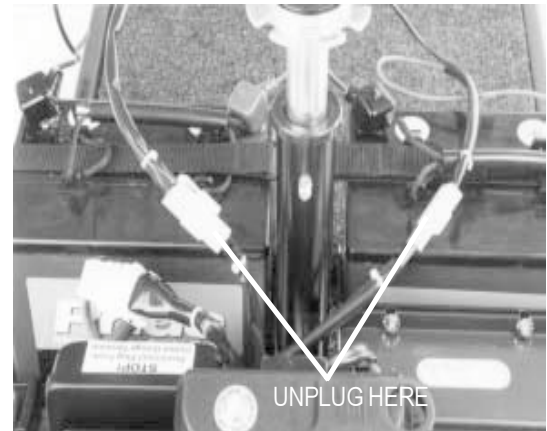

FIGURE 14. BATTERY HARNESS CONNECTORS
5. Unplug both battery harnesses. See figure 14.
10. Connect the 2-pin battery harnesses into the mating harnesses that extend from the electronic controller. See figure 14.